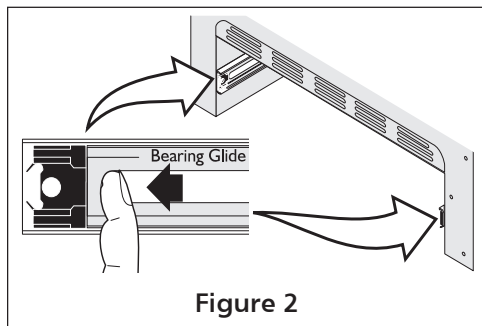

Figure 2
2. **Pull the bearing glides to the front** of the chassis glide (see figure 2).